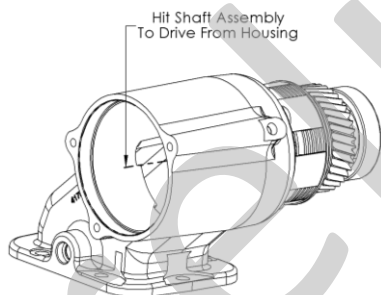
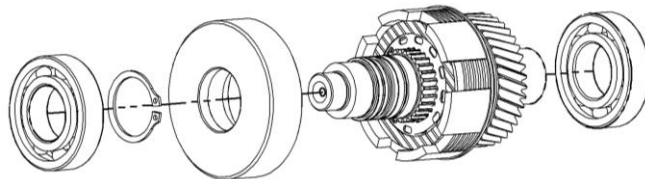

Figure 3 – Output Shaft Drive
Figure 4 – Output Shaft component's Removal
5. Next, position the housing (23) against a bench block and hit the end of the output shaft (9) with a soft face to remove the entire output shaft assembly from the PTO housing (23). *See figure 3.*
6. Using a bearing puller, remove the front bearing (18) from the output shaft (9) and then remove the rear bearing (18) from the output shaft (9).
7. Staying at the rear of the output shaft, remove the snap ring (1) using snap ring pliers while gently pushing on the piston cup (3).
8. Pull the piston cup (3) from the output shaft (9) and the piston (5) will go with it. *See figure 4.*